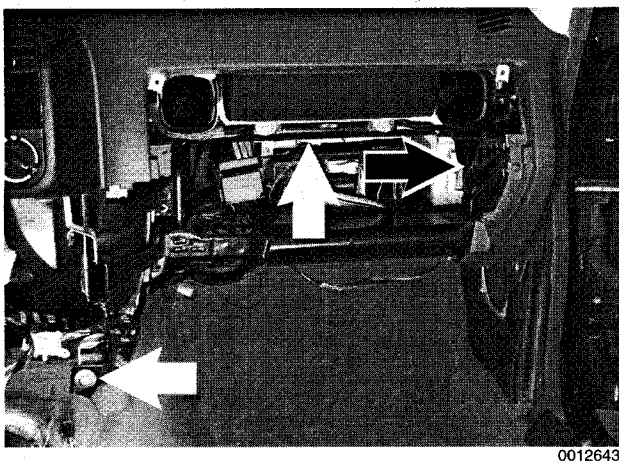

Fig. 8. Glove compartment support frame bolts (arrows).
14. Remove glove compartment support frame. See Fig. 8.